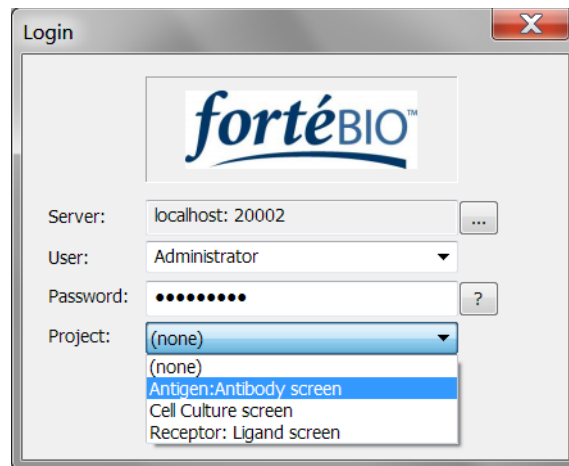

Figure B-28: Login Dialog Box with Project Selections
5. If required, select a project from the **Project** drop-down list (Figure B-28).